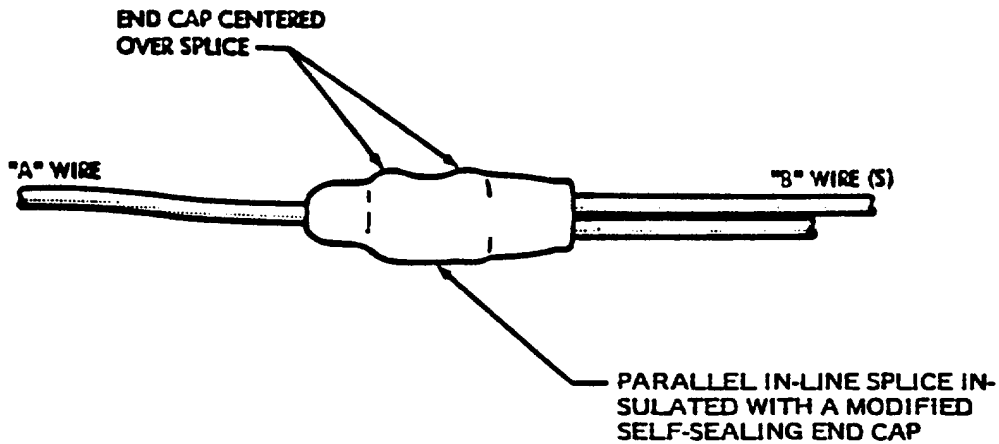

Figure 18. Construction of Parallel In-Line Splices
a. Determine proper AMP parallel connector per Figure 18 and Table 2.
b. Determine proper self-sealing end cap per Figure 18 and Table 3.
e. Install modified end cap over the wire as shown in Figure 18.
j. If there is more than one splice in the boot area, stagger splices to limit bundle enlargement. Stagger shield terminations if wires are shielded (Figure 18).